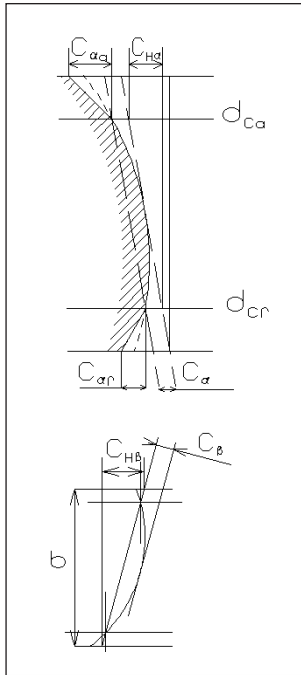

Figure 4—Profile and lead diagram not to scale, used to define microgeometry in drawings.
- microgeometry defined in the drawings which included both profile and flank line crowning (Figure 4);